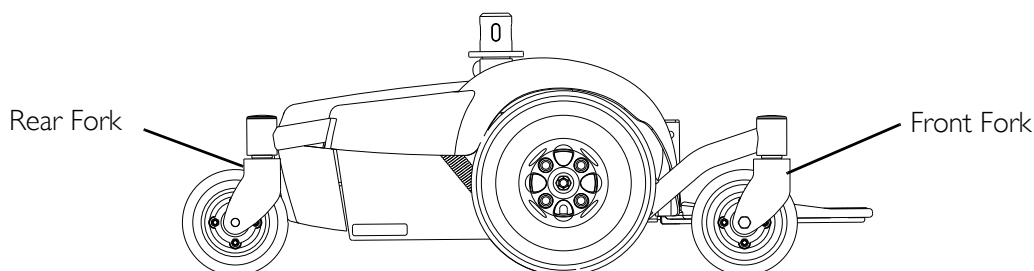

FIGURE 4.3 Lifting/Stairways
NOTE: For this procedure, refer to FIGURE 4.3 on page 21.
5. Ensure that the casters are oriented as shown in FIGURE 4.3.